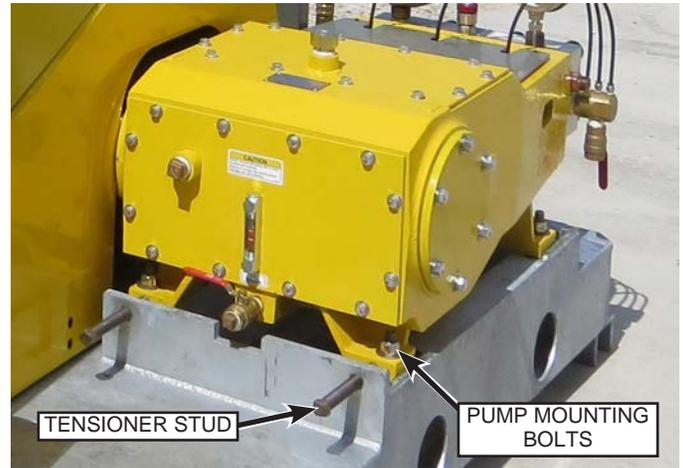

Fig. 121: Pump Mount
3. Loosen the four pump mounting bolts (Fig. 121).
4. Equally turn the two tensioner studs (Fig. 121) counter-clockwise to move the pump and decrease the belt tension enough to allow belt removal.